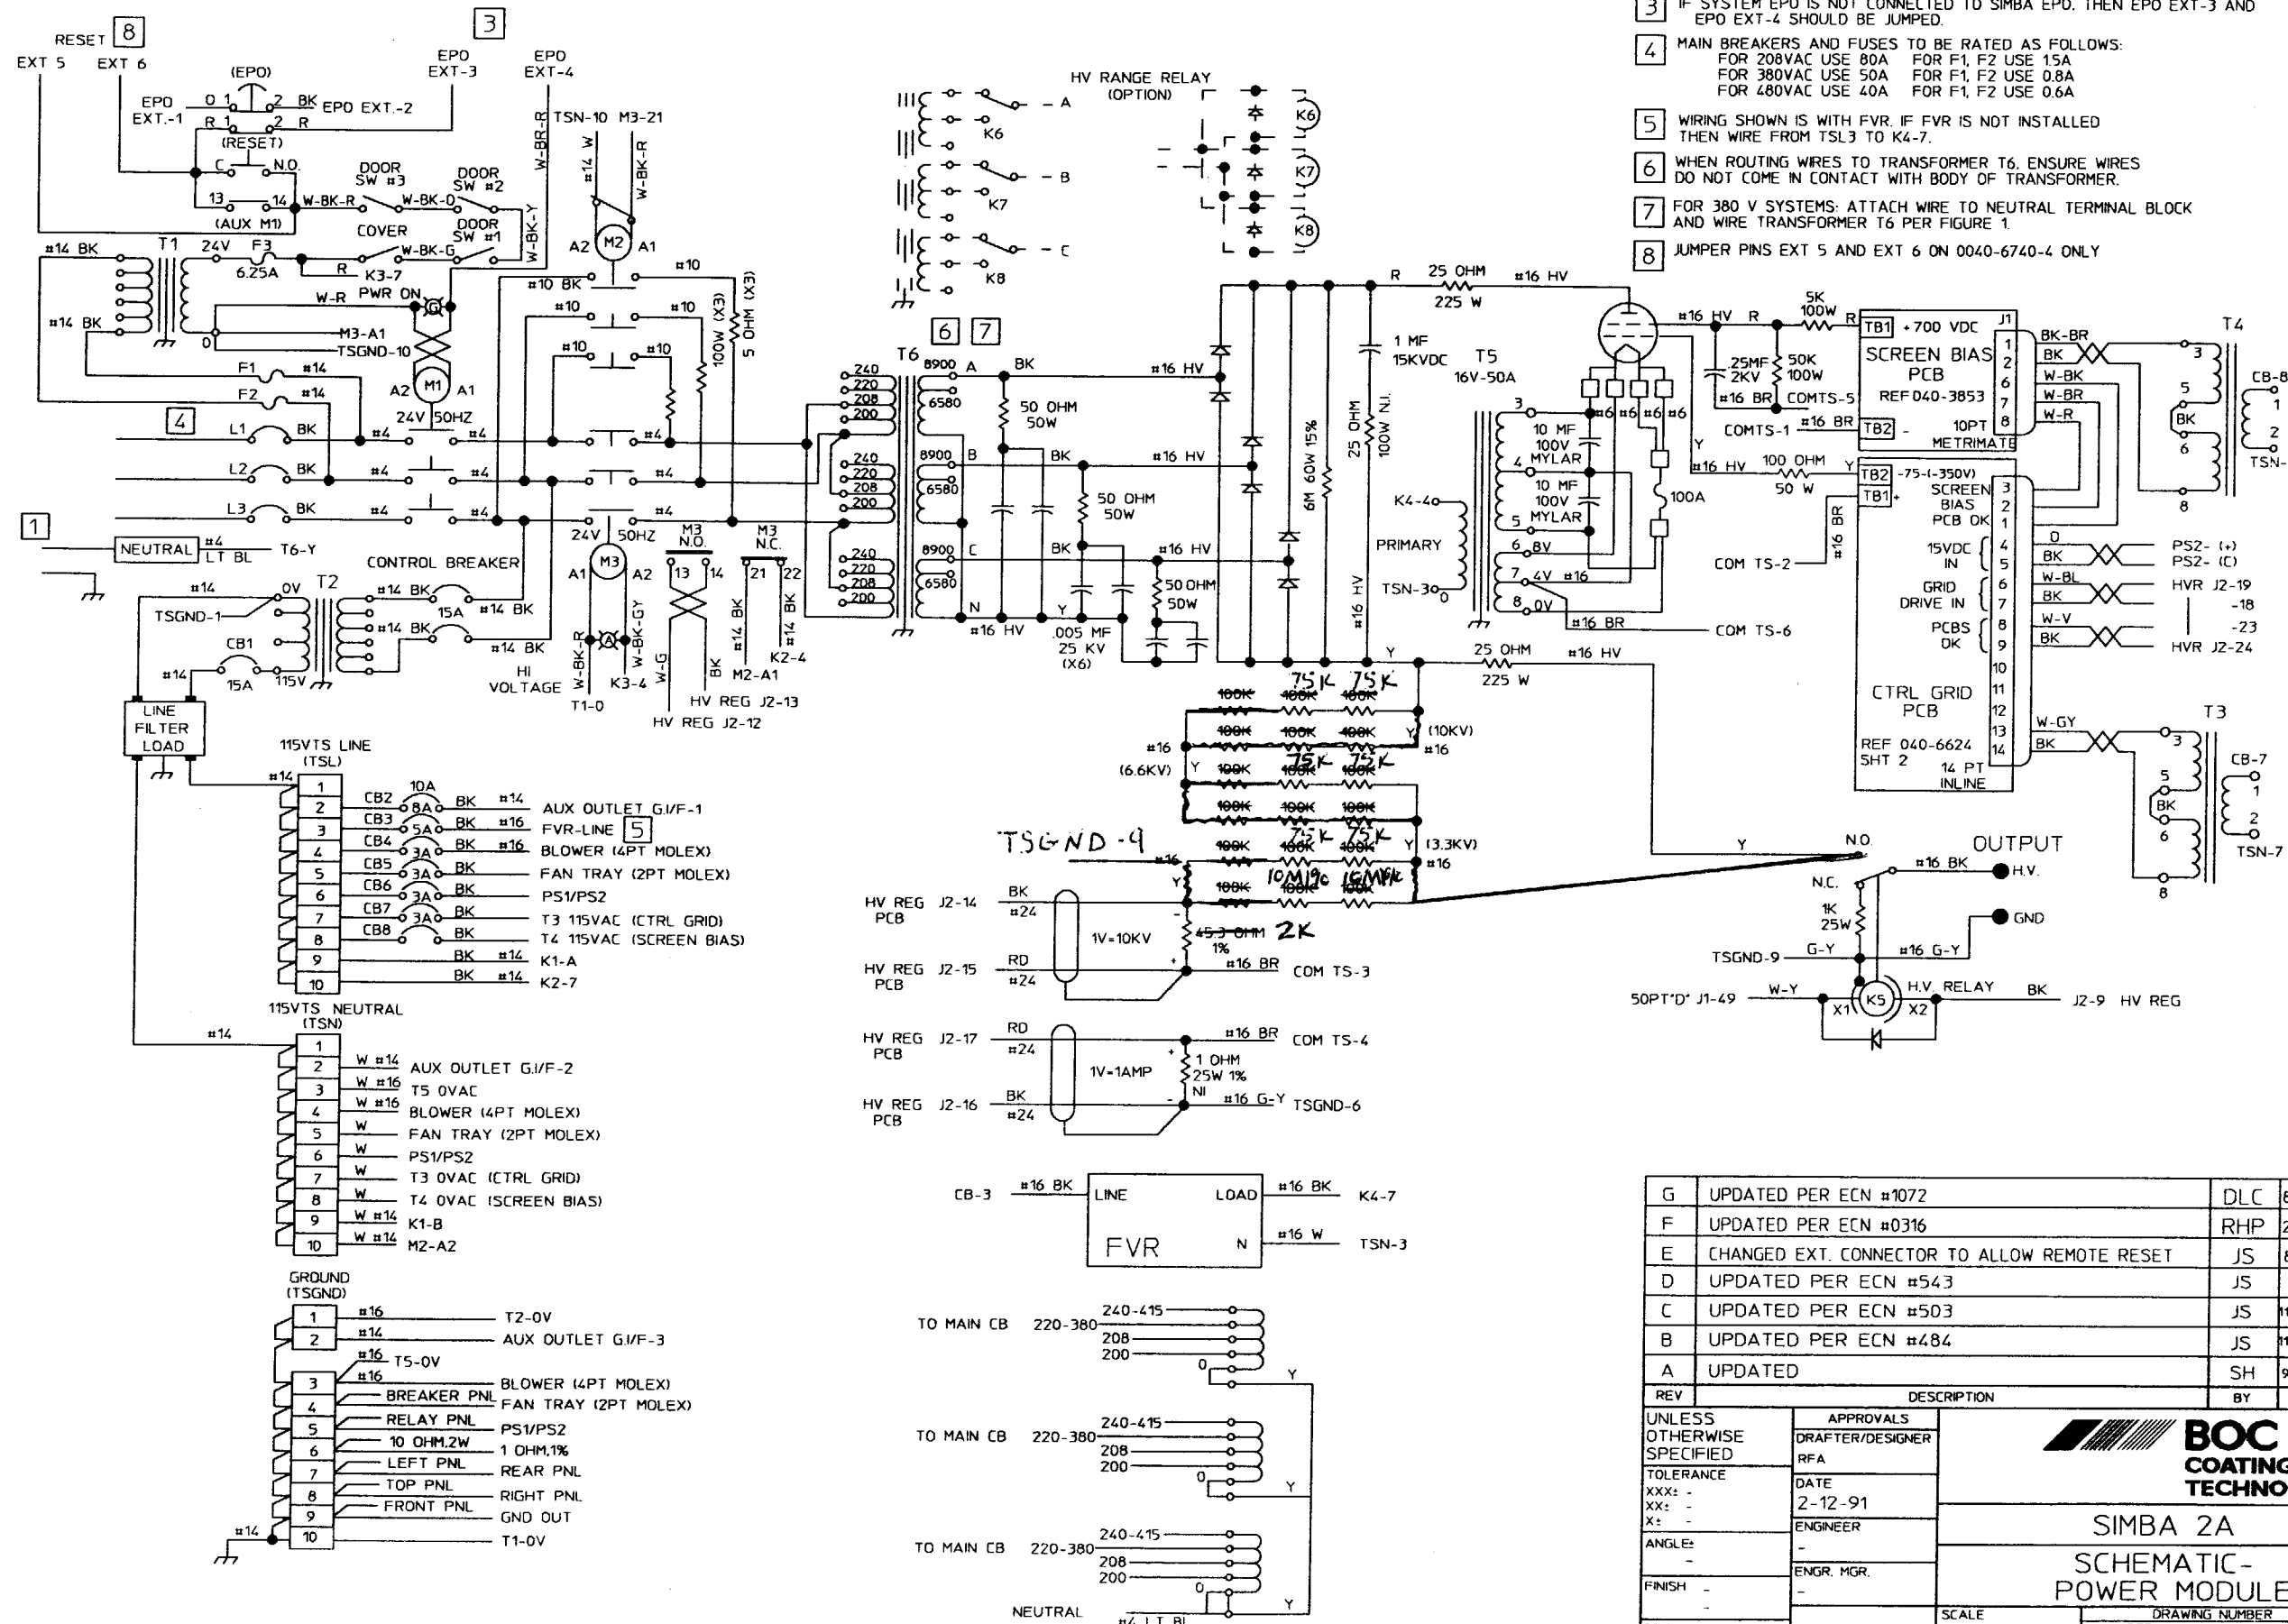

FIGURE 1
- 7 FOR 380 V SYSTEMS: ATTACH WIRE TO NEUTRAL TERMINAL BLOCK AND WIRE TRANSFORMER T6 PER FIGURE 1.